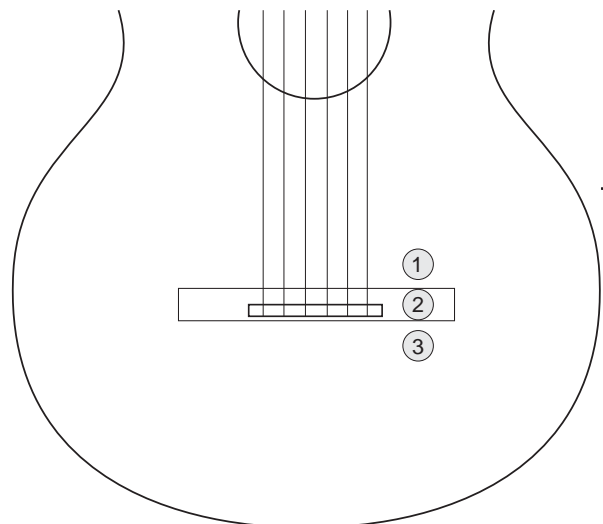

Fig. 1
6. Locate the pickup under the bridge between the second and third strings (B2-G3). See suggested locations in fig. 1.